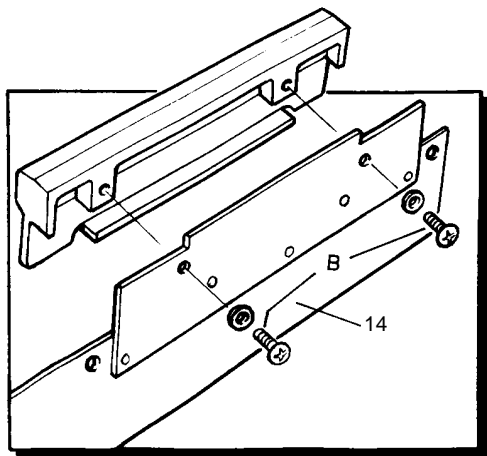

Fig.14
- (c) Re-assemble in reverse order using the panel supplied. (see fig. 14).